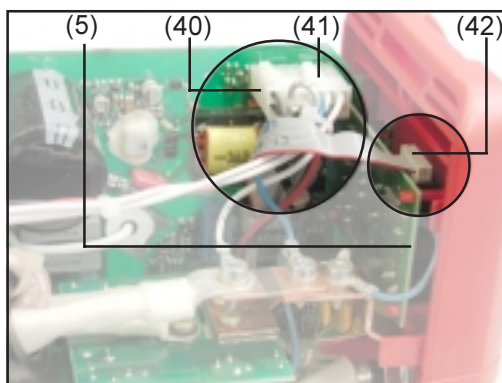

Fig. 19
- Plug the 10-pole Molex plug (41) onto board LCA15
- Plug the 2-pole Molex plug (40) onto board LCA15
Note! Before plugging in the ribbon cable (42), pass it across the cable harness for Molex plugs (40) and (41), as shown in Fig. 19.
- Arrange the ribbon cable (42) above the cable harness, as shown in Fig. 19
- Plug the ribbon cable (42) to board FPA15 (5)